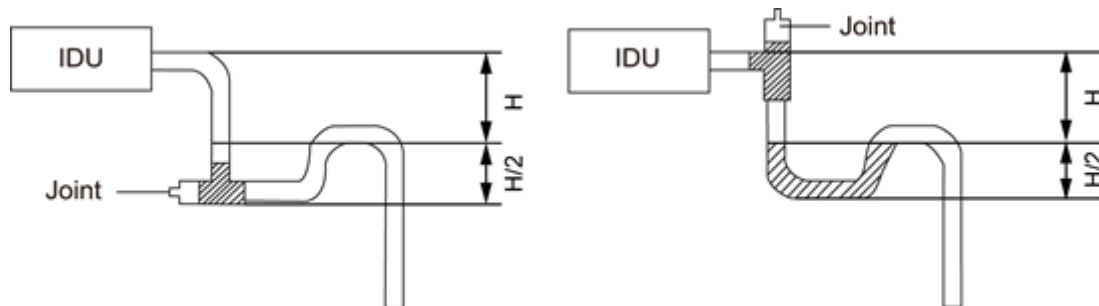

Fig 4.3.5
- (5) Install the trap as shown in following Fig 4.3.5.
(6) Install one trap for each unit.
(7) Convenience for cleaning trap in the future should be considered when installing it.